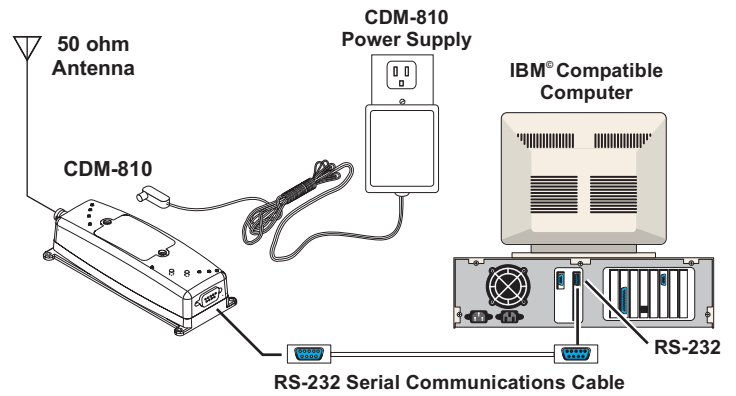

Figure 3. - Computer Connection
2. Taking the CDM-810 in hand, route a RS-232 Serial Communications Cable from the DB-9 connector on the CDM-810 to the Serial Communications port on the computer. (see Fig. 3)